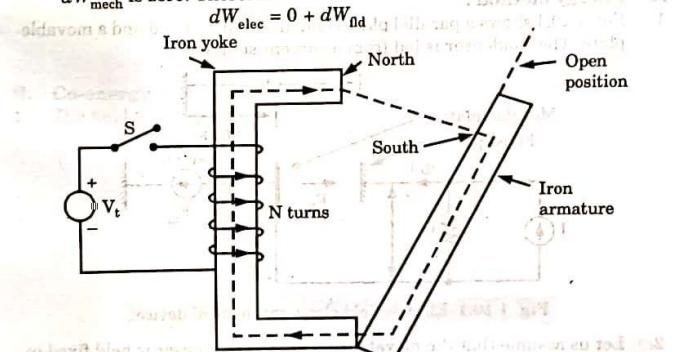

Fig. 1.9.1. Simple electromagnetic relay.
2. Consider the electromagnetic relay shown in Fig. 1.9.1. Initially the armature is in the open position. When switch 'S' is closed, current  $i$  is established in the  $N$ -turns coil.
4. The magnetic field thus produced, creates north and south poles as shown in Fig. 1.9.1 and as a result of it there establishes a magnetic force tending to shorten the air gap.